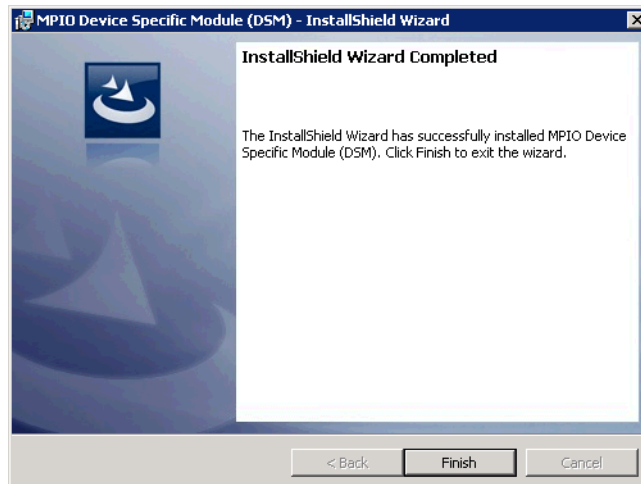

Figure 3-18 MPIO Device Specific Driver - Installation completed
4. Finally click on **Finish** to complete the installation process. A reboot is required to apply the new driver changes. See Figure 3-18 for an example of the completion of the wizard.